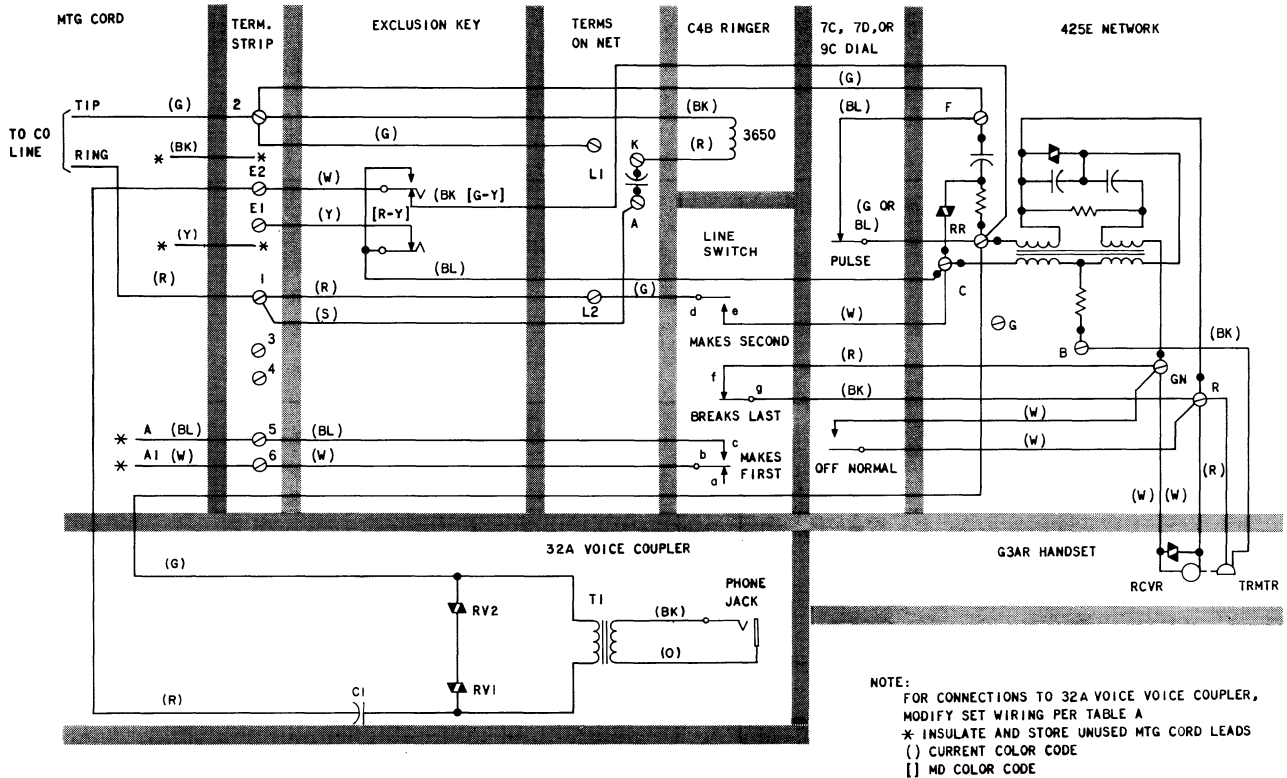

Fig. 6—502B Telephone Set—Modified for Use With 32A Voice Coupler
*Note:* Refer to Fig. 6 for CO, mounting cord, and interconnections to 32A voice coupler. If A lead control is required, use (BL) and (W) mounting cord leads to extend A and A1 to line circuit.